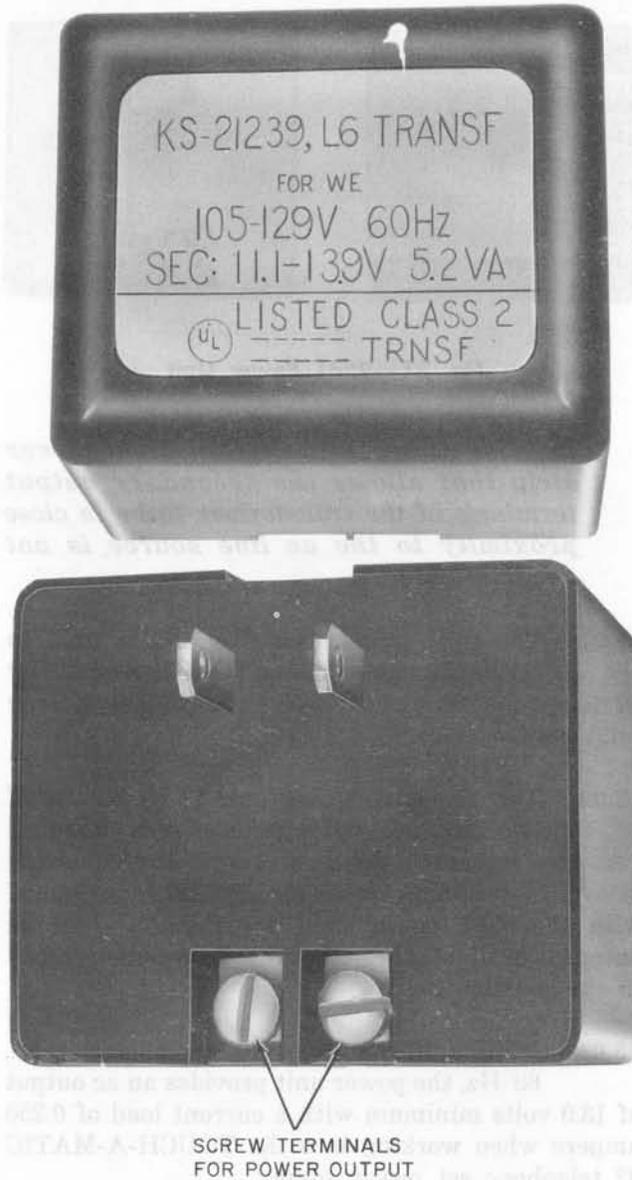

Fig. 18—KS-21239L6 Transformer
11.01 The KS-21239L6 transformer (Fig. 18) is used to furnish power for the 24A-type line status indicator.
11.02 The transformer is self-protecting with an automatic thermo switch and is provided with primary terminals in the form of parallel blades which serve as the mounting means. Recessed screw-type secondary terminals are provided on the same side of the transformer as the primary terminals. Refer to Fig. 18 for electrical specifications.